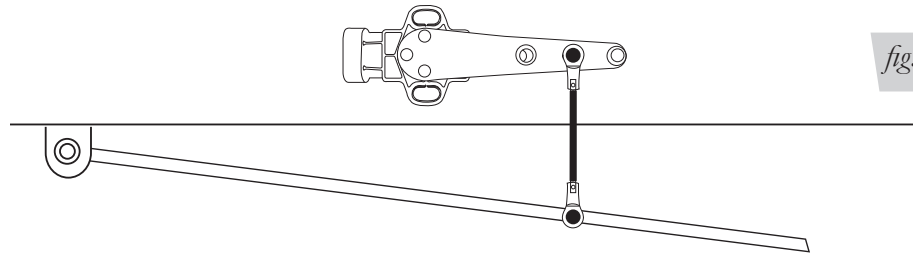

fig. 24
3. Fasten by finger tightening the linkage to the sensor arm and ensure the sensor arm is at mid-position with respect to the sensor (fig. 24).